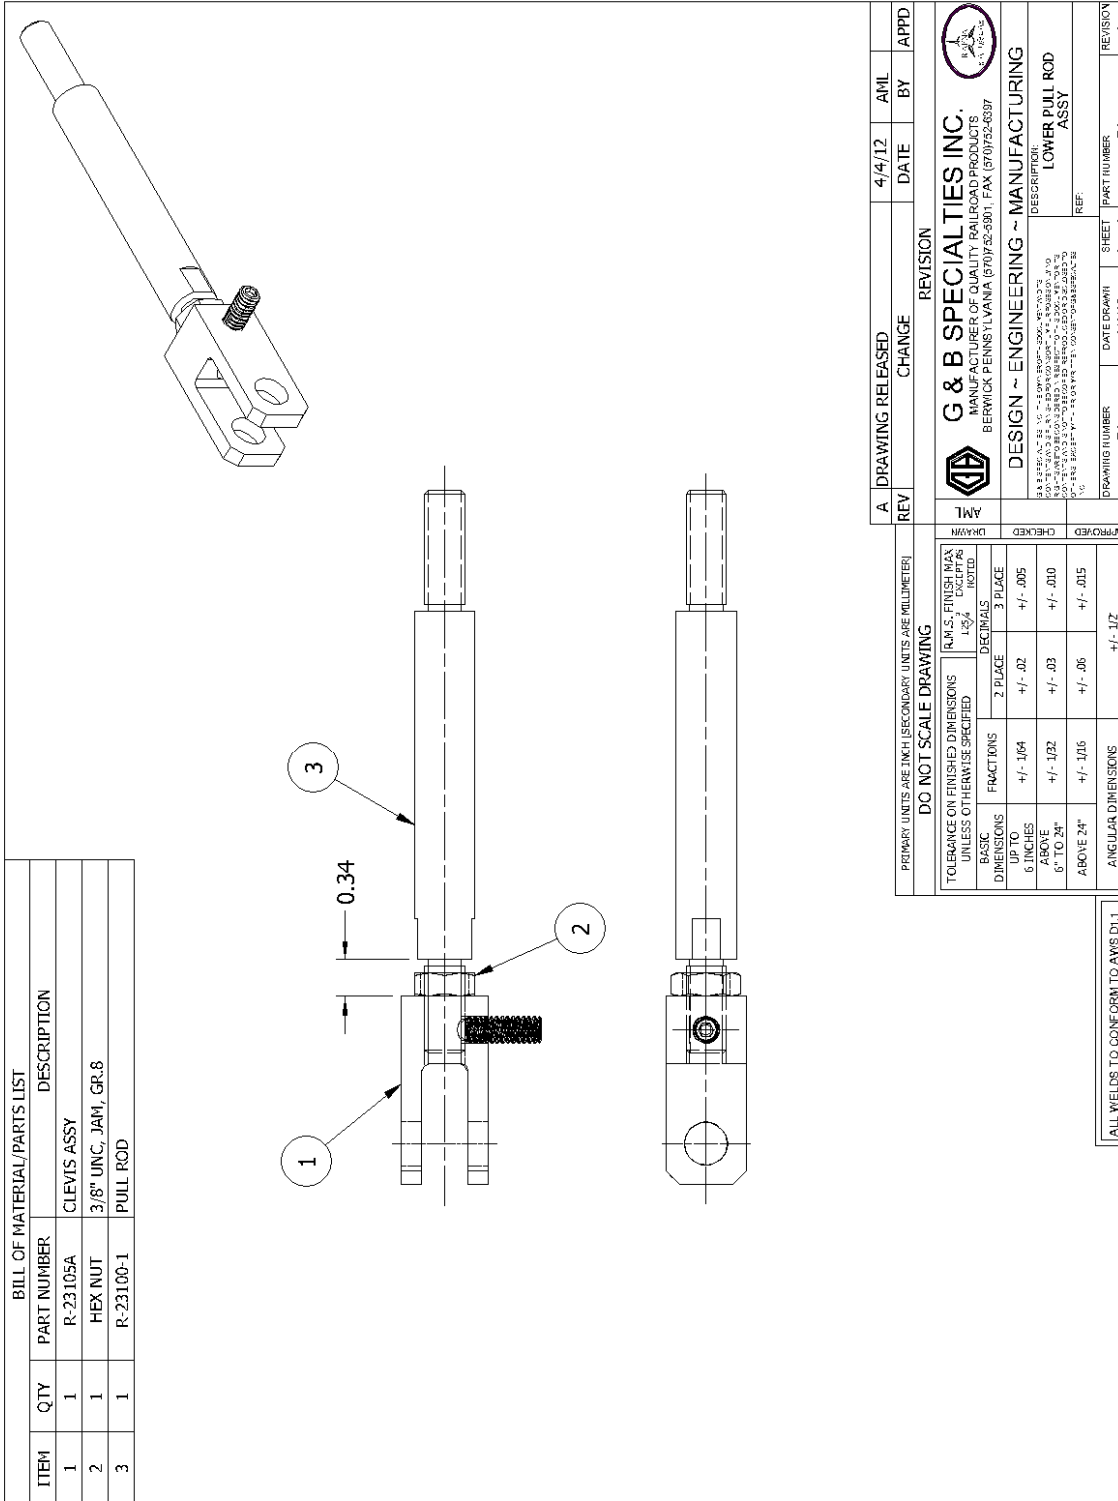

Figure 1
1. Bench assemble the new lower pull rod as shown (Figure 1)